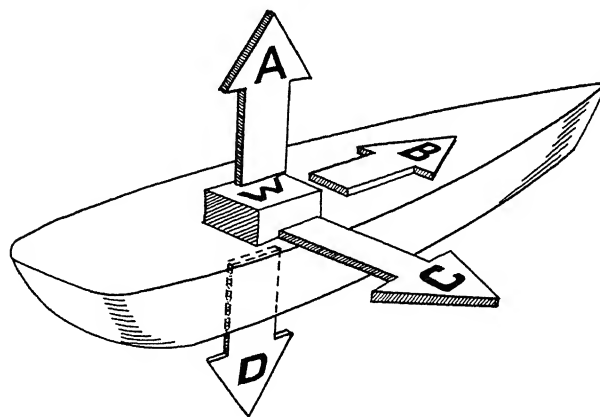

Figure 2E.
- 2-40. In what direction, if any, will the center of gravity move if weight W in figure 2E is moved in direction B?
2-42. In what direction must weight W in figure 2E be moved to produce an inclining moment?